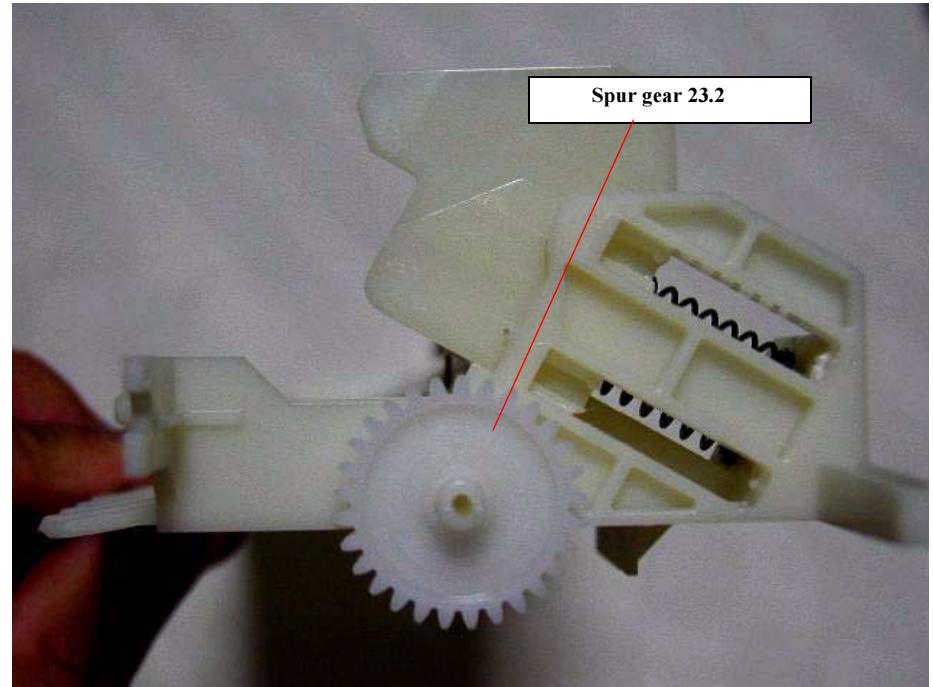

Figure 4-57. Removing the Gears from ASF frame unit
- Make sure that the each tip of the Torsion spring 25.7 is set in the slot of the Pad holder and ASF frame. Refer to Figure 4-57.